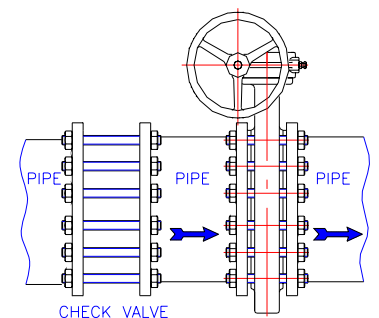

Fig.4
7. Use a pipe spool piece between wafer check valve and butterfly valve, never connect them directly. (Fig.4)